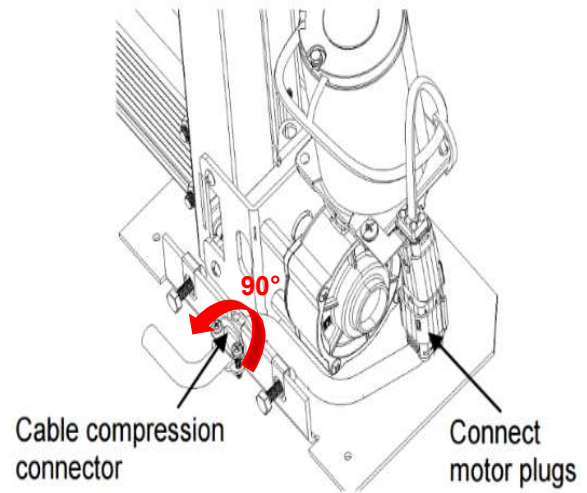

Figure 98
13) Locate the short end of the cable, which can be identified from the metal compression connector near the end of the cable. Make the connector go through the center hole on the back of the motor jack's base plate. Connect the cable to the motor harness and tighten the screws of the compression connector onto the base. **The screws of the compression connector should be oriented horizontally.** You might have to rotate the connector as shown on Figure 98. Let the remainder of the cable pass near the U-frame. The electrical hook-up will be explained further. When connecting the motor harness, you must hear a *CLIC* from the connector to confirm you have properly installed it.